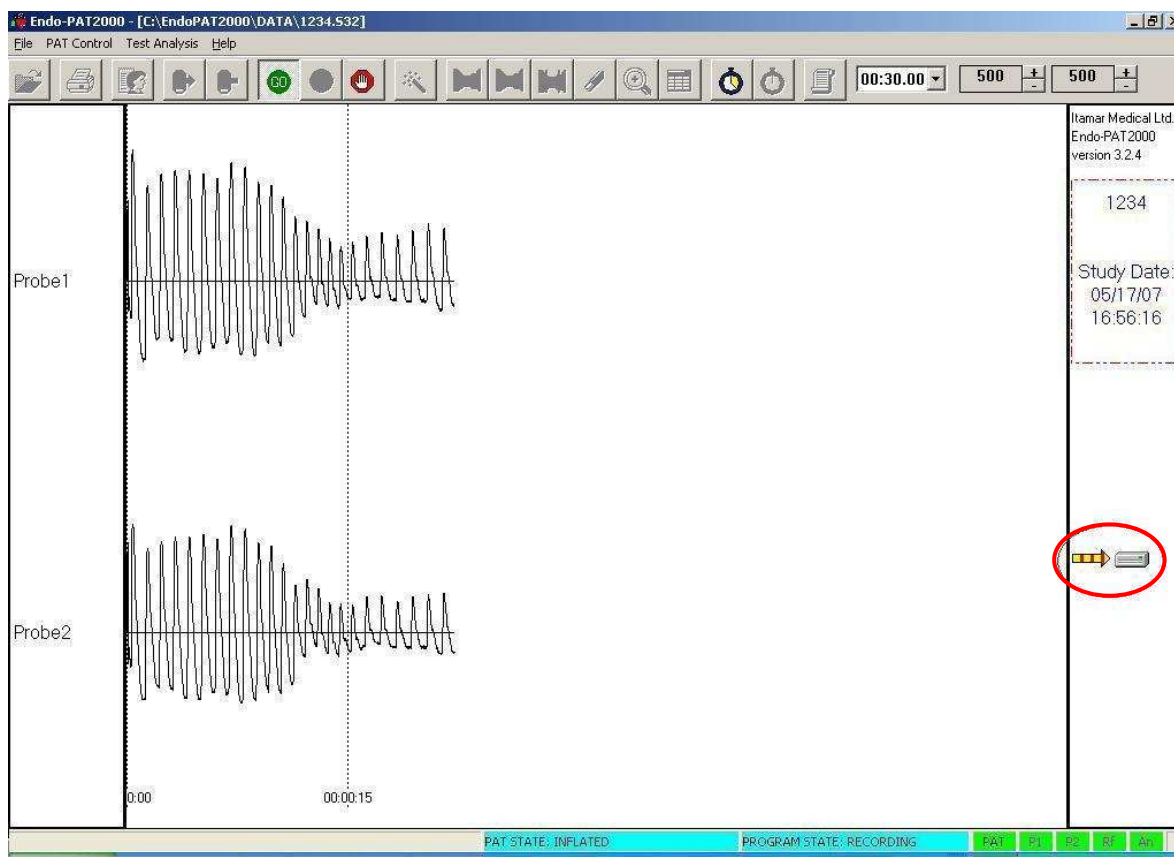

Figure 28 - Recording
- Click the  icon to begin study recording. Verify that the “recording” icon appears on the right hand side of the display (see the circled icon in Figure 28).